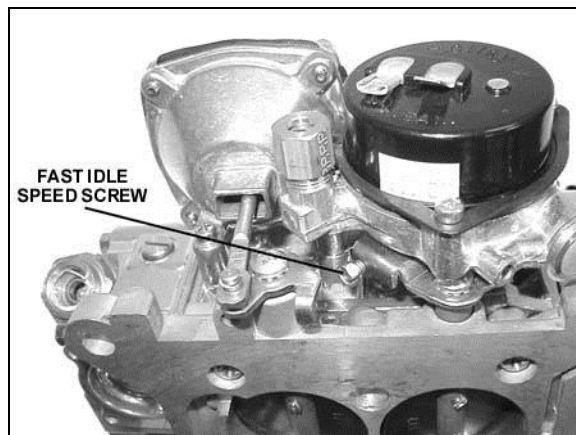

Figure 8
2. If the fast idle RPM is too low or too high for your preferences, **SHUT DOWN THE ENGINE!** Advance the throttle to wide-open, exposing the fast idle set screw below the choke housing (See Figure 8).